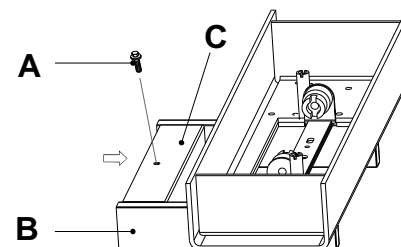

FIG.2
2. Attach the fixture body "B" to the J-Box through slotted holes "D" which will allow, if necessary, to the structure to be regulated. FIG.2